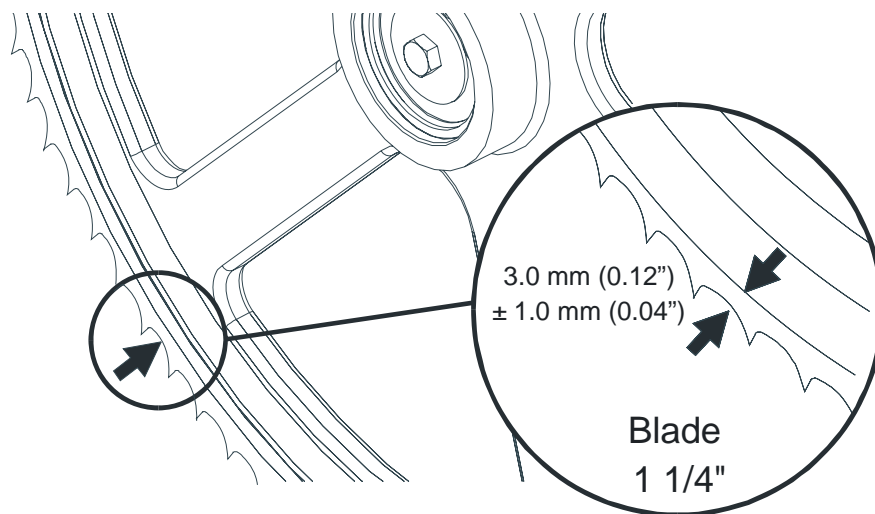

FIG. 2-10
**See Figure 2-10.** Position 1 1/4" wide blade on the wheels so the gullet is 3.0 mm (0.12")  $\pm$  1.0 mm (0.04") out from the front edge of the wheel.